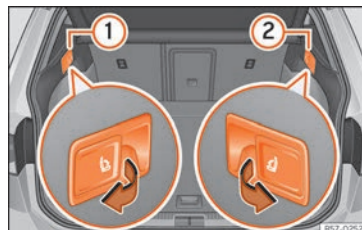

Fig. 114 In the luggage compartment: levers for remote release of the left part ① and right part ② of the rear seat backrest.
- Pull the unlocking lever » Fig. 114 of the part of the backrest to fold down.